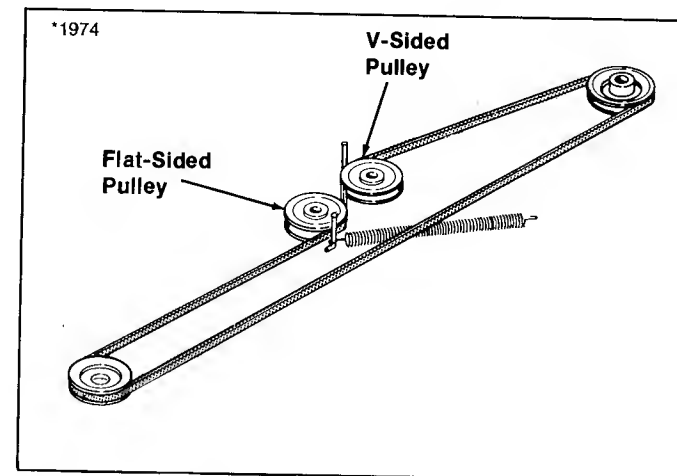

Figure 24. Drive Belt
11. Lock parking brake to position idler pulley bracket. Install new belt to idler pulleys. Make sure belt is properly routed on flat and V-sided pulleys. Refer to figure 24. Install washers and flange whiz nuts securing pulleys.